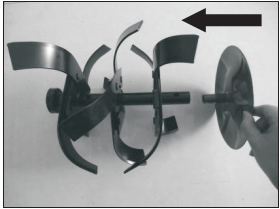
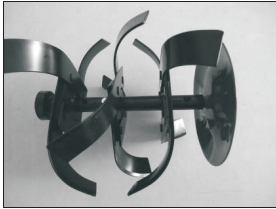

Fig. 3A
Fig. 3B
1. Insert the right protective plate into the blade assembly (Fig. 3A/ Fig. 3B).